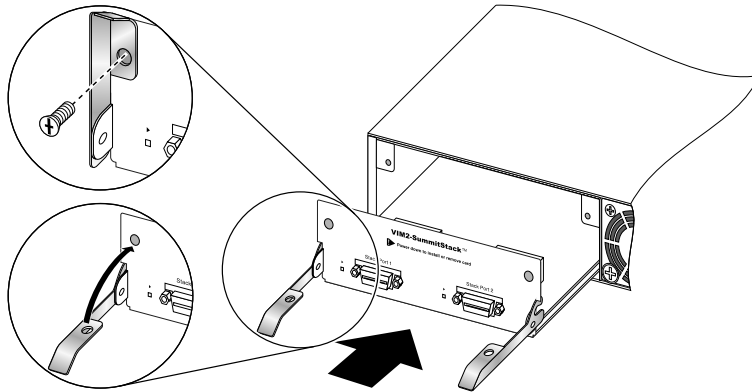

Figure 380: Installing a VIM
- 5 Install the replacement VIM in the switch (see Figure 380: Installing a VIM on page 396):